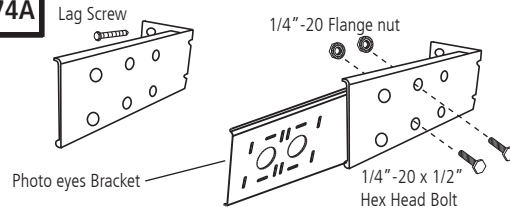

Fig. 76
- Feed wires through conduit adapter assembly. Then connect field wires to terminal block as shown in Fig. 76.